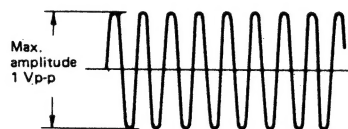

Figure 11. Waveform
3. Adjust LK01 for the maximum amplitude of waveform (See figure 11) while holding down **VOLUME DOWN** Button on the hand unit.
4. Rotate the core of LK01 for the maximum amplitude of waveform on the scope, clockwise from the fully counterclockwise position. (See figure 11.)